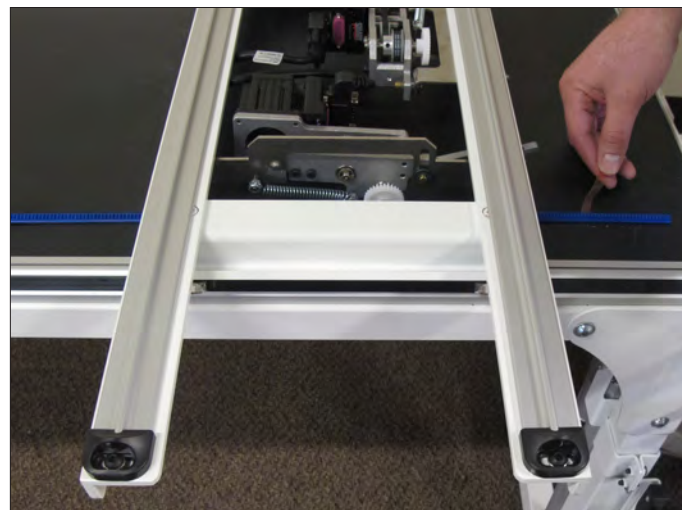
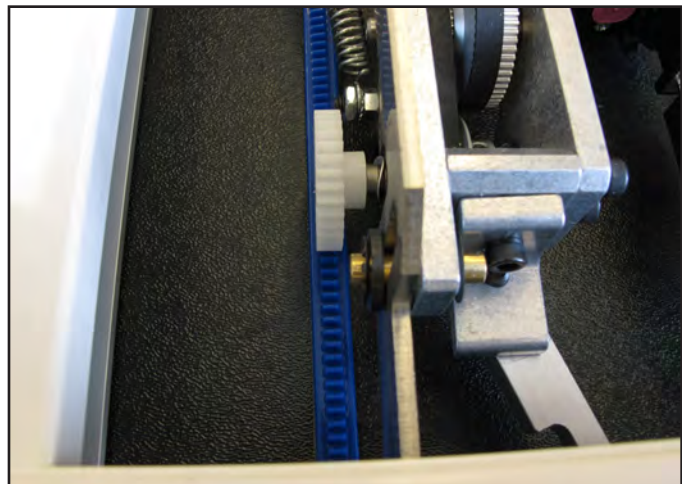

Figure 3.3
Figure 3.4
2. Place the HQ Pro-Stitcher carriage on the frame. Starting at one end of the table, begin mounting the blue Flexirack to the front of the table while aligning it to the front white gear on the carriage. (**Figure 3.3**) Peel back just a few inches of the pink protective layer of the tape. Position the blue Flexirack by aligning it to the white gear as you move down the table. (**Figure 3.3**). Press down on the blue Flexirack to stick it firmly to the table. Use the carriage as a guide and align the blue Flexirack with the white gear along the length of the table (**Figure 3.4**), removing the pink protective layer and pressing downward on the blue Flexirack while moving down the entire length of the table.